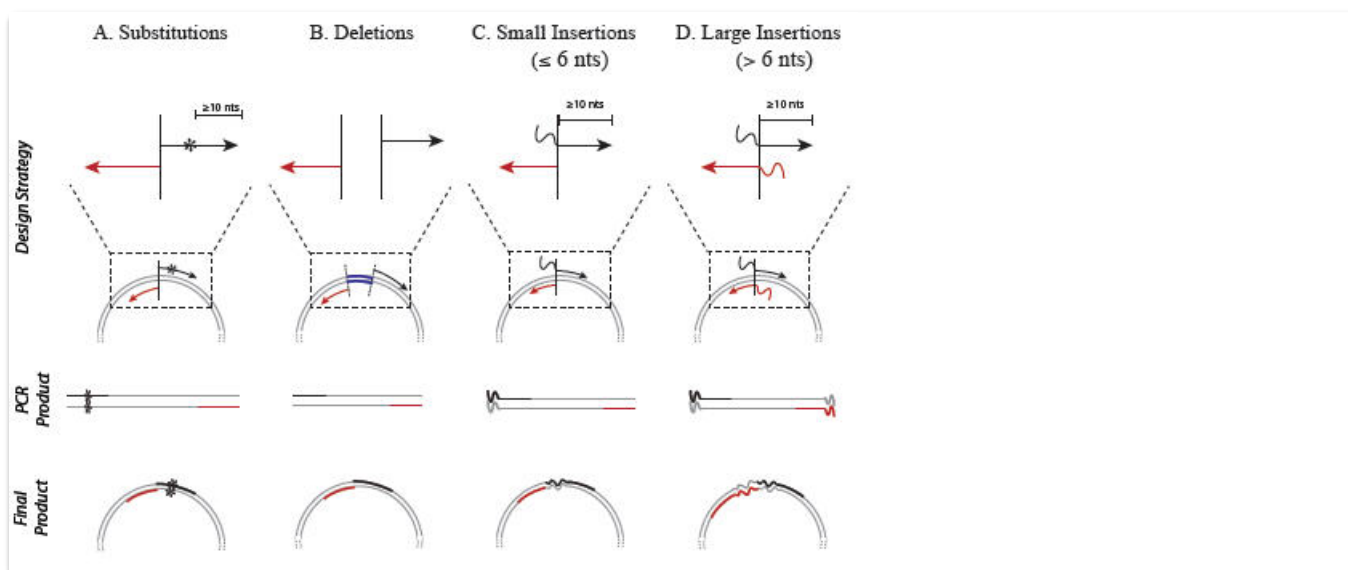

Figure 3: Primer Design for the Q5 Site-Directed Mutagenesis Kit
- Ensure that your primers are designed properly. To take advantage of the exponential nature of the amplification reaction, the 5' ends of the two primers should align back-to-back unless deletions are being made (see Figure 3). For best results, primers should be designed and annealing temperatures calculated using NEBaseChanger™, the NEB online primer design software.